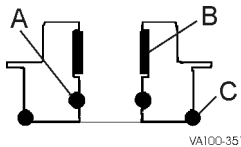

Figure 17 - Adapter O-rings and Bearing
2. Remove and replace the o-ring (Figure 17, item A) inside the adapter.
3. Check the split bearing (Figure 17, item B) inside the adapter by feeling the amount protruding from the adapter wall. If the bearing is flat against the wall, replace the bearing.
2. Slide or cut the outer o-ring (Figure 17, item C) off the adapter. Do not nick or scratch the o-ring groove.